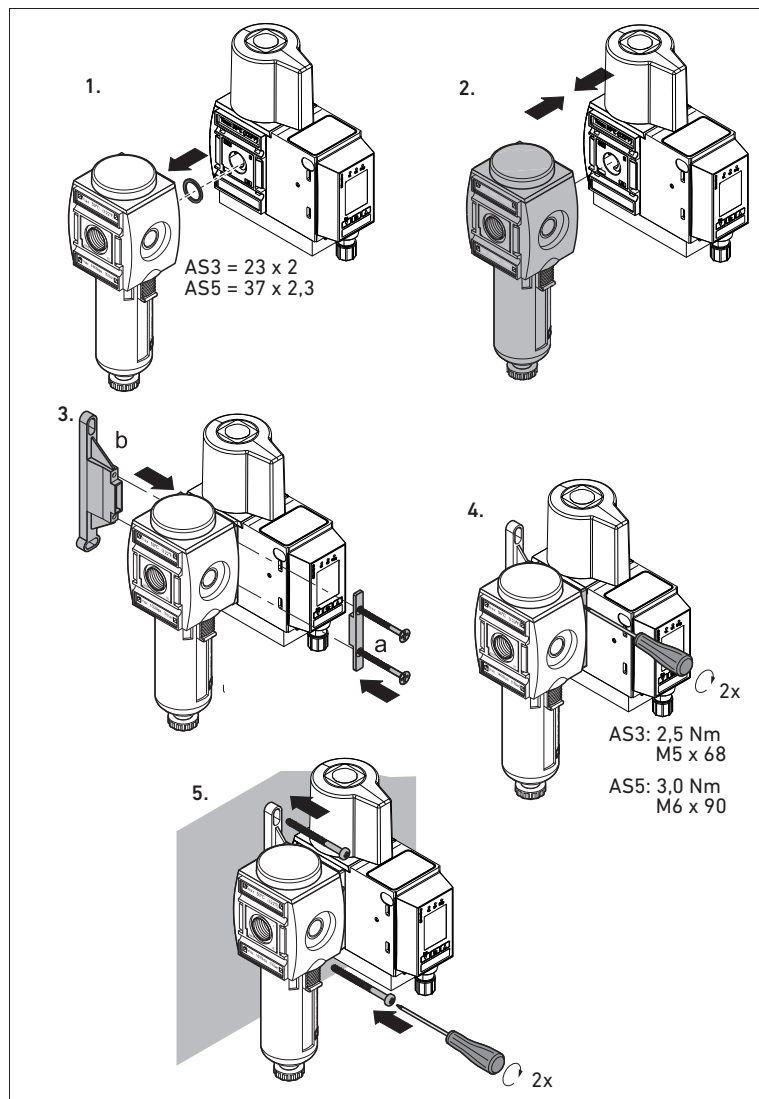

Fig. 4: Attaching EV1X with additional wall mounting
**i** If you assembly four or more components into blocks, you must use an additional wall mounting W03 - R412007370 after every second valve in place of the connection element (see Fig. 4).
To connect the valve with the maintenance unit components, proceed as shown in Fig. 4: